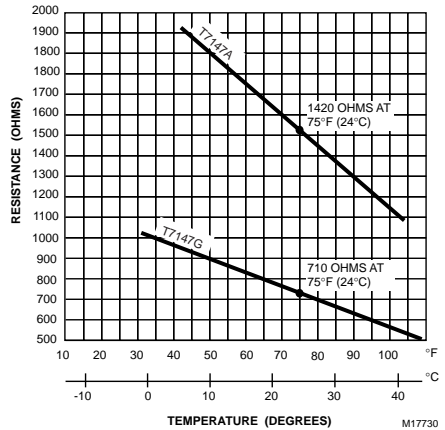

Fig. 2. T7147 Remote Sensor resistance change with change in temperature.
Resistance decreases as temperature increases (Fig. 2).
2. Measure the T7147 resistance in accordance with the temperature curves. See Fig. 2.